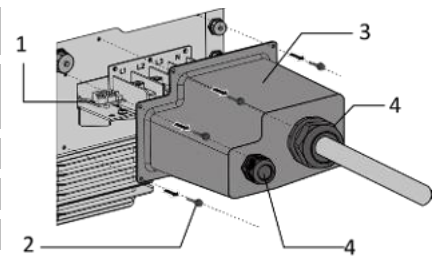

Fig. 36. Remove the plastic AC/COM cover
1. Remove the plastic AC/COM cover from the inverter, store the removed screws properly (see Fig. 36) [  4  1.6Nm].